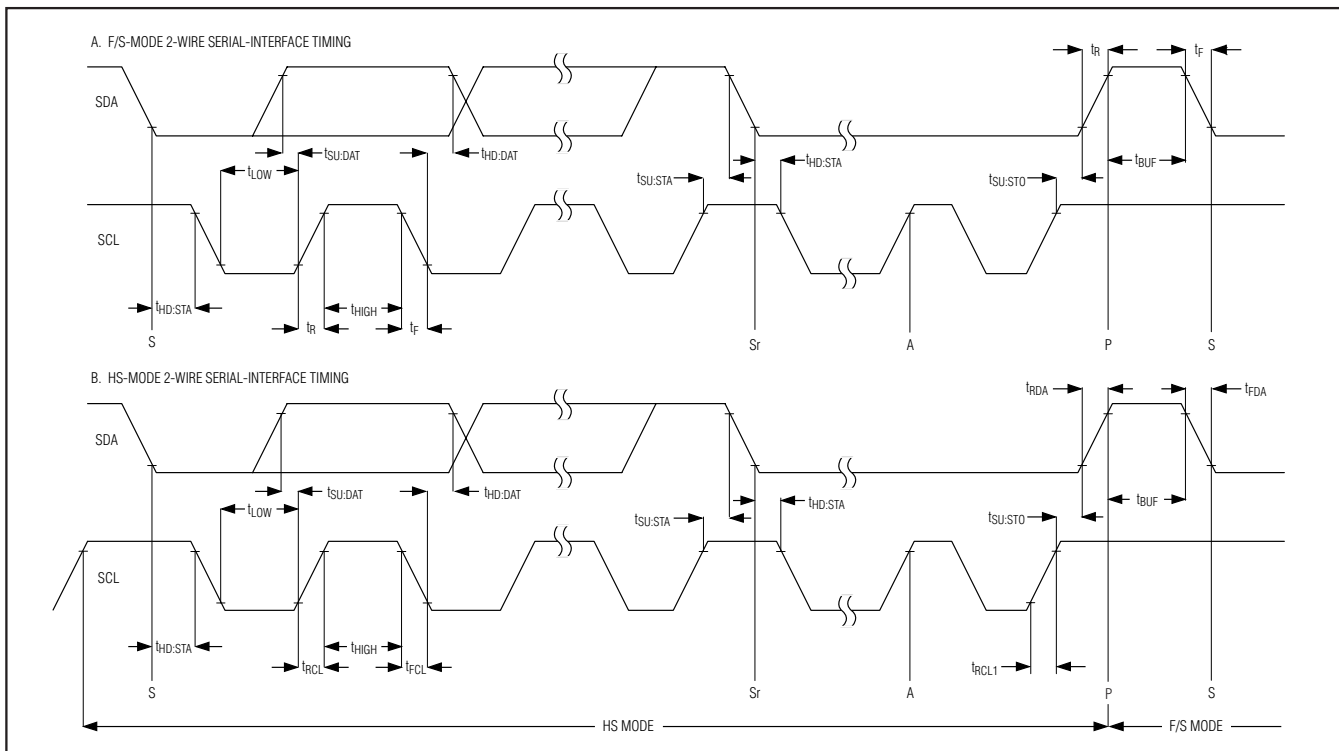

Figure 1. 2-Wire Serial-Interface Timing
## TIMING CHARACTERISTICS (Figure 1)
## TIMING CHARACTERISTICS (Figure 1) (continued)
**Note 11:** A master device must provide a data hold time for SDA (referred to VIL of SCL) to bridge the undefined region of SCL's falling edge (see Figure 1).
up to 22.2ksps. The MAX11606–MAX11611 must operate in high-speed mode (HS mode) to achieve conversion rates up to 94.4ksps. Figure 1 shows the bus timing for the MAX11606–MAX11611's 2-wire interface.